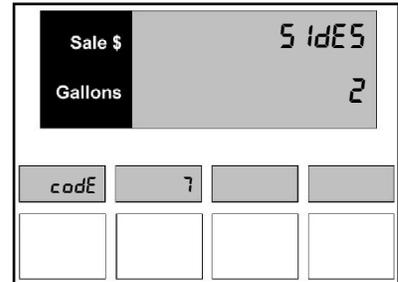

Figure 7.2 - Sides
4. Once **Enter** has been pressed, the number of sides appear in the main display. The default setting is for 2 sides as shown in *Figure 7.2*.